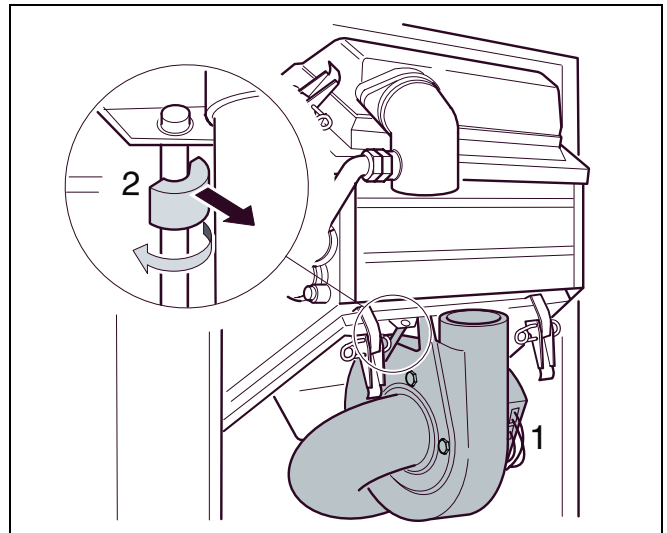

fig. 43 Removing the fan
- Pull off the plug of the fan (fig. 43, item 1).
- Turn and pull out the safety retainer of the fan (fig. 43, item 2).